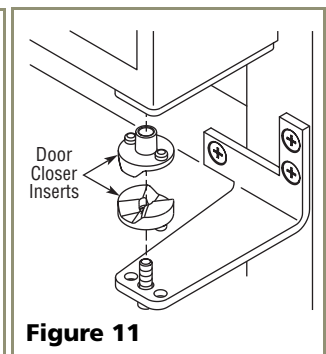

Figure 11
4. Remove the two door closer inserts from the existing bottom hinge and install as shown on the new bottom hinge (see **Figure 11**).